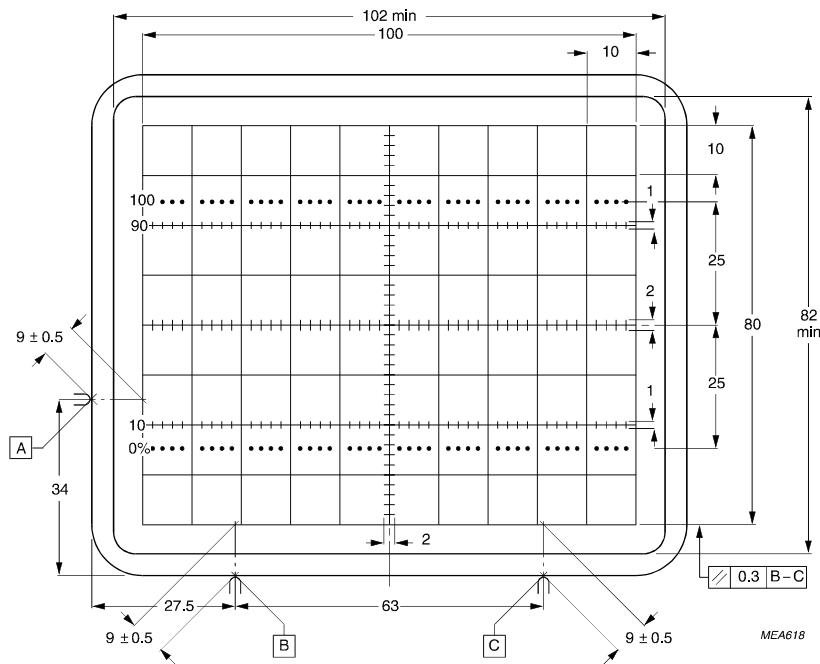

Fig 4. Front view of tube with internal graticule, type 123.
| Internal graticule | type 123 (see Fig.4) |
The tube can be mounted in any position. It must not be supported by the socket and not by the base region alone. The reference points on adjoining edges of the faceplate (see Fig.4) enable the tube to be positioned accurately in the front panel, for optimum alignment of the internal graticule.
- (1) Dimensions of faceplate only. The complete assembly of faceplate and cone (frit seal included) will pass through an opening of 122 mm x 102 mm (diagonal 153 mm).
- (2) The coil is fixed to the envelope with resin and adhesive tape.
- (3) The length of the rotation coil connecting leads is minimum 350 mm.
- (4) Reference points on faceplate for graticule alignment (see Fig.4)
- (5) The centre of the final accelerator contact is situated within a square of 10 mm x 10 mm around the indicated position.
1. Because the frit seal is visible through the faceplate, and is not necessarily aligned with the internal graticule, application of an external mask, or bezel, with an open area of max. 102 mm x 82 mm is recommended. The internal graticule is aligned with the faceplate by using the faceplate reference points (see Fig.4).